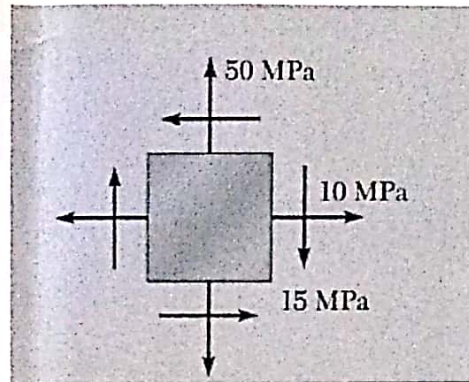

Figure Q6
6. Following a road traffic accident you have been engaged by the Road and Transport Safety Agency (RTSA) to do a stress analysis on the wrecks of motor vehicles to help in establishing the exact cause of the accident. The preliminary finding of stress analysis portrays a stress system as given in Figure Q6.